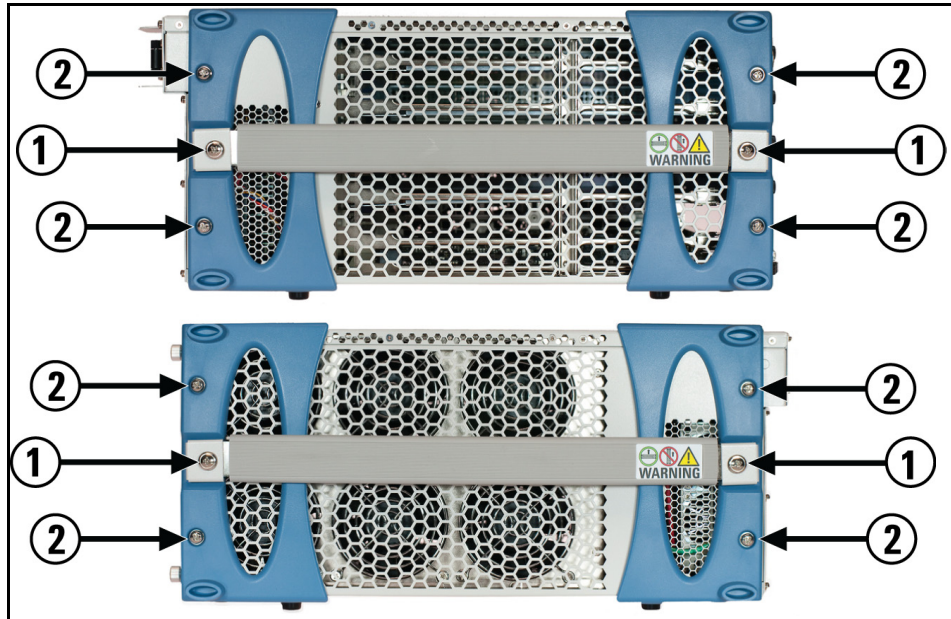

Figure 1 . Removing the Carry Handles and Bumpers
- 1 The M9505A AXIe chassis has two carry handles which must be removed before removing the plastic bumpers. Remove the two #2 Phillips screws securing the carry handles. See Figure 1.
- 2 Remove the #2 Phillips screws from each side of both bumpers. See Figure 1.